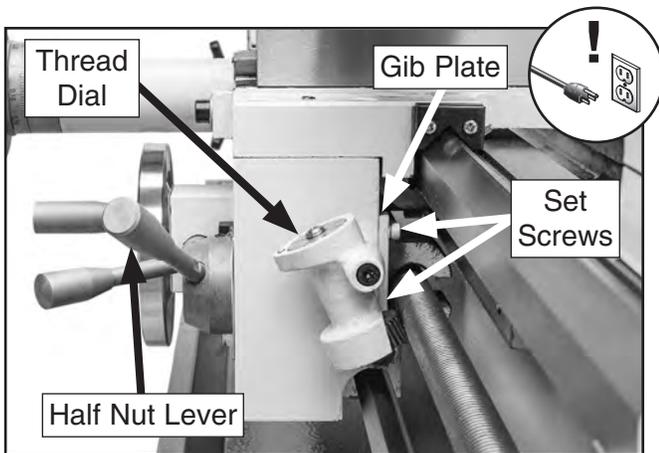

Figure 112. Half-nut gib set screws.
3. Loosen hex nuts on set screws shown in **Figure 112**.